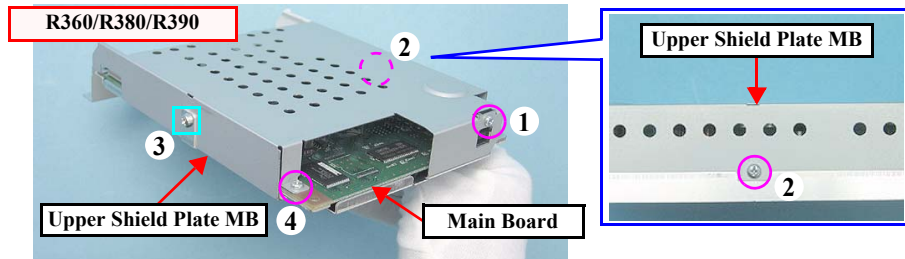

Figure 4-61. Removing the Upper Shield Plate MB (R360/R380/R390)
- Screw the Upper Shield Plate MB of the R360/R380/R390 in the order given in Fig.4-61.